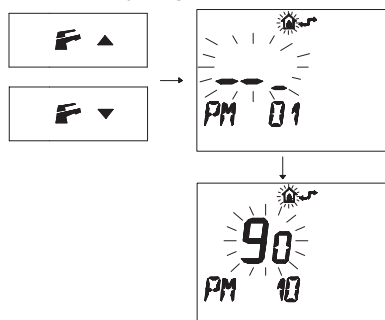

Fig. 8.28
- Press buttons **F** and **▲** or **F** and **▼** to display the "PM10" program for selecting the ignition frequency (Fig. 8.28).
In Fig. 8.28 a SET programmed at 90 is dis-